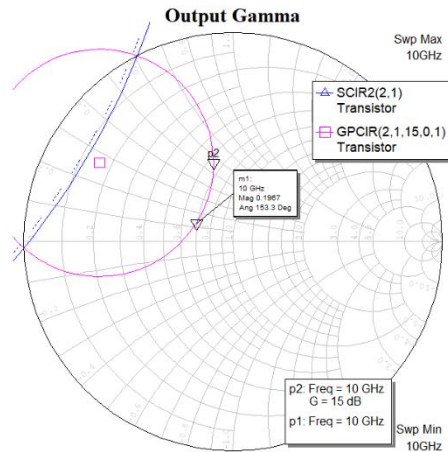

Fig. 2 Output stability circle and constant power gain circle.
- Create a new graph of Smith Chart type and, at 10 GHz, plot the above stated circles which can be found in Liner – Circles. The 15 dB version can be seen in Fig. 2.